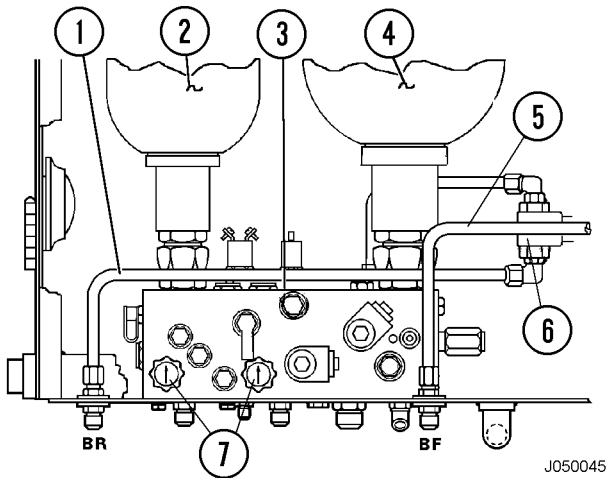

FIGURE 5-5. BRAKE MANIFOLD AND COMPONENTS
2. Close brake accumulator drain valves (7, Figure 5-5), if open.